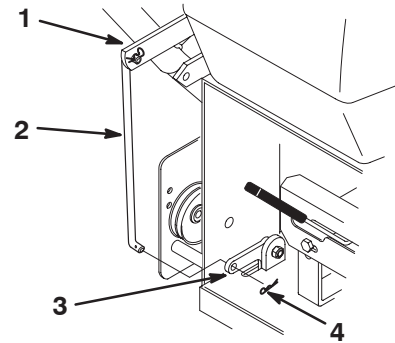

Figure 10
1. Rotate the blade control (PTO) lever vertically away from the left handle so that the blade control (PTO) rod drops down (Fig. 10).
2. Remove the hairpin cotter from the bottom end of the blade control (PTO) rod (Fig. 10).
3. Secure the blade control (PTO) rod through the hole in the bell crank with the hairpin cotters (Fig. 10).